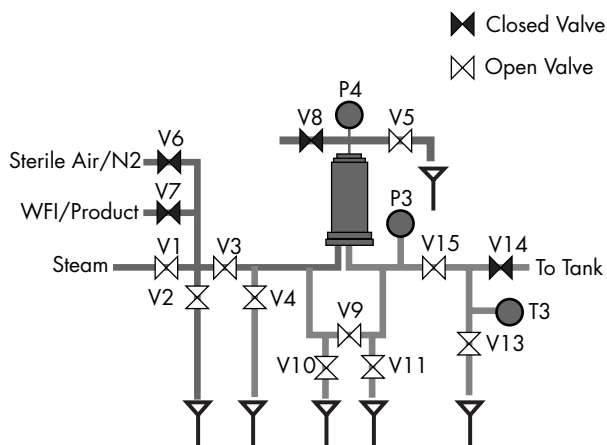

Fig 2: SIP Configuration
2. Open valve V1 and valve V2 (Figure 2) and purge the steam line to remove all condensate.